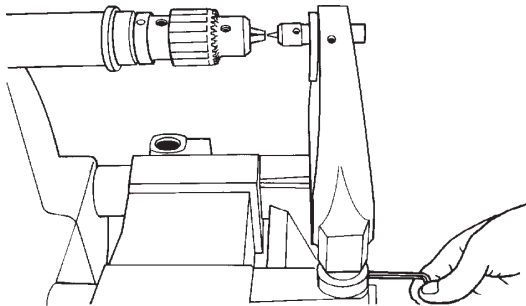

Figure C-76
- To adjust the cup center point **vertically**, loosen the mount lock, then loosen the tailstock stop collars. Raise or lower the tailstock in the base mount until the cup center point vertically lines up with the drill chuck, then tighten the mount lock. Press the stop collars down firmly against the base mount and tighten the collar set screws, as shown in Figure C-76.